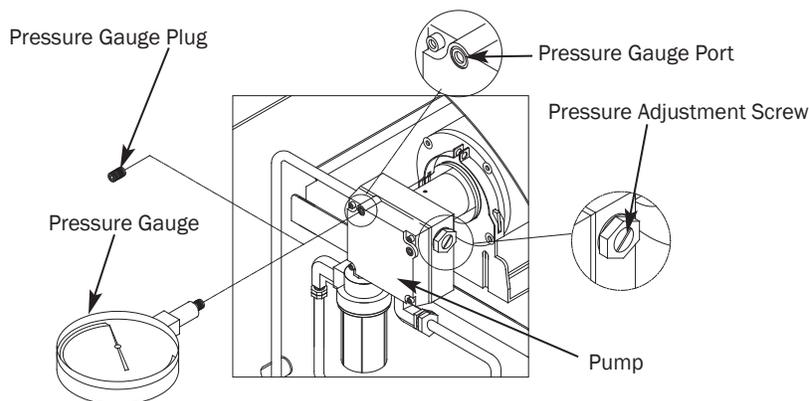

**Figure 23 – Fuel Pump Filter**
- Install accessory pressure gauge to pressure gauge port (See Figure 23).